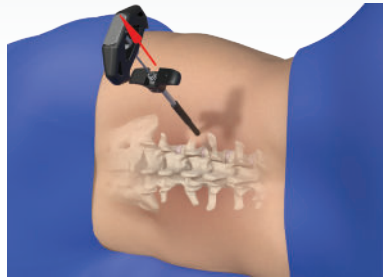

Figure 10
- Remove the inner stylus of the targeting needle (Figure 10).